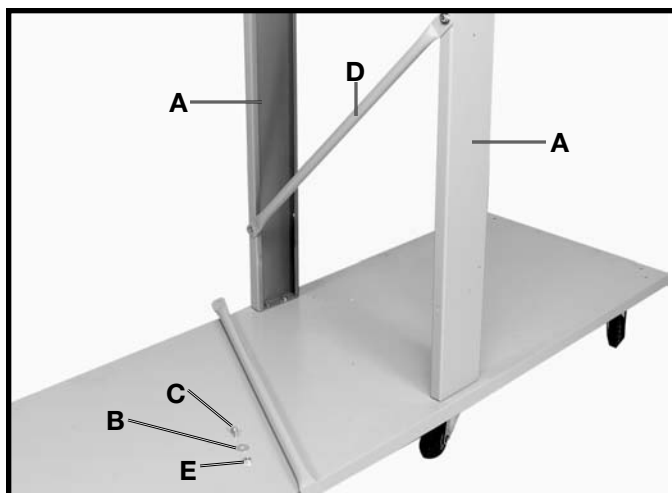
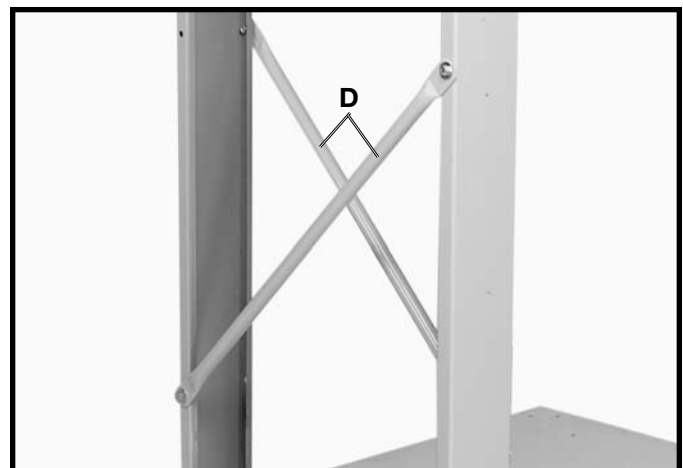

Fig. 8
Fig. 9
3. Assemble two cross-member supports (D) Fig. 8, diagonally to the two side supports (A). Align the holes in the cross-member supports (D) with the holes in the side supports (A). Place a 5/16" flat washer (B) on a 5/16-18 x 5/8" hex head screw (C), insert the screw through the cross-member support and side support, and place a 5/16" lockwasher onto the screw and fasten with a 5/16-18 hex nut (E). Repeat this process for the remaining hole. Attach the other cross-member support in the same manner. The cross-member supports (D) Fig. 9, are shown assembled to the side supports. **NOTE:** Tighten hardware at this time.